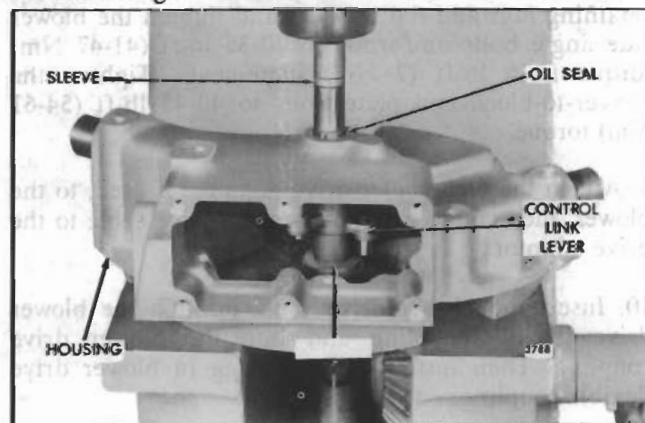

Fig. 20 - Installing Control Link Lever Shaft Oil Seal in Governor Drive
- b. Support the governor drive housing on the bed of an arbor press, with a spacer under the end of the control link lever to prevent the bearing from slipping out of the housing (Fig. 20).